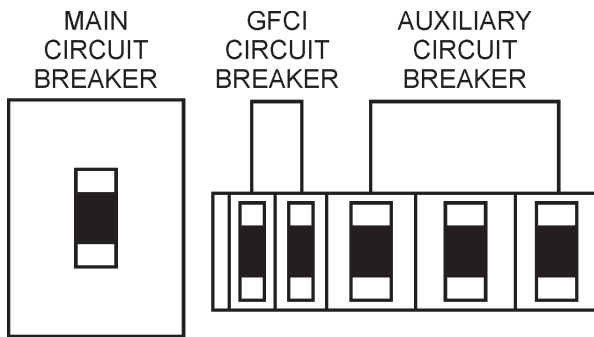

Figure 38. Main, Aux. and GFCI Circuit Breakers (OFF)
1. Place the **main, G.F.C.I.,** and **aux.** circuit breakers (Figure 38) in the **OFF** position prior to starting the engine.
1. Place both the **MAIN**, **GFCI** and **LOAD** circuit breakers as shown in Figure 38 to the **OFF** position.
1. To shut-down the engine in the event of an emergency, switch the **MAIN**, **GFCI** and **LOAD** (Figure 38) circuit breakers to **OFF** position.